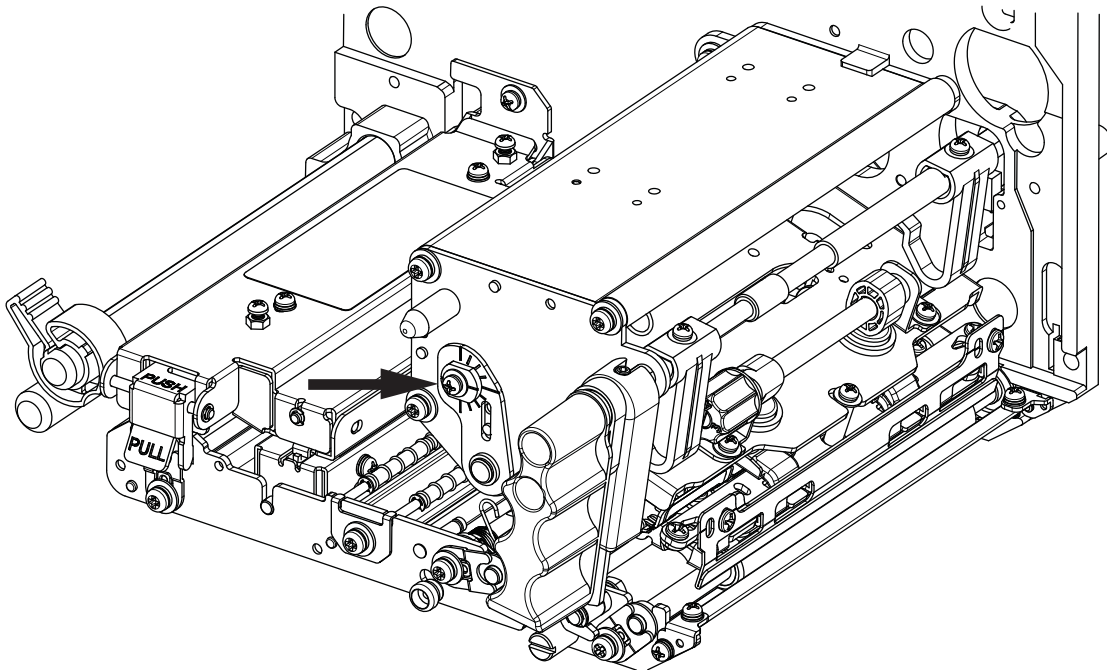

Figure 6-7, Print Head Adjustment, Adjust Collar
1. Lock the thermal head assembly into position. Locate adjust collar, indicated by arrow in Figure 6-7.